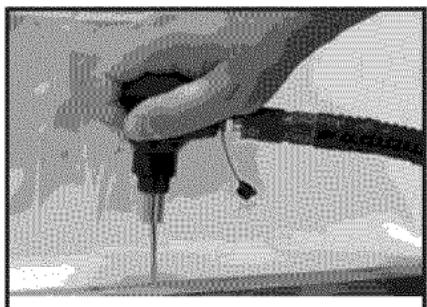

Figure 2-Driving Nails
3. Place the nosepiece down onto the top of the nail. Remove the fingertips of your other hand from nail. (See Figure 2, Page 5).
WARNING: To avoid injury, keep fingers completely above the lower half of tool when driving nails (See Figure 2, Page 5).